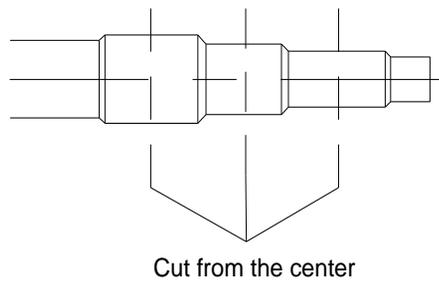

Fig. 4.3.3
- (2) Manifold has several pipe sections with different pipe size, which facilitates to match with various copper pipe. Use pipe cutter to cut in the middle of the pipe section with different pipe size and deburr as well. See Fig. 4.3.3.